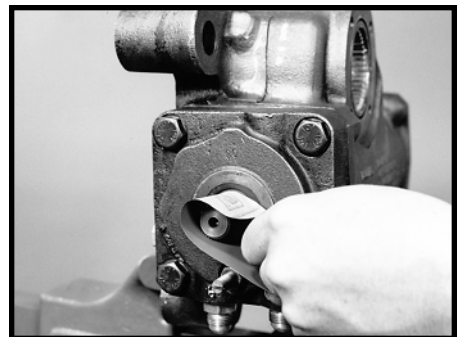

Figure 59
20. Clean any paint or foreign material from the input shaft with a fine grade emery paper. SEE FIGURE 59.